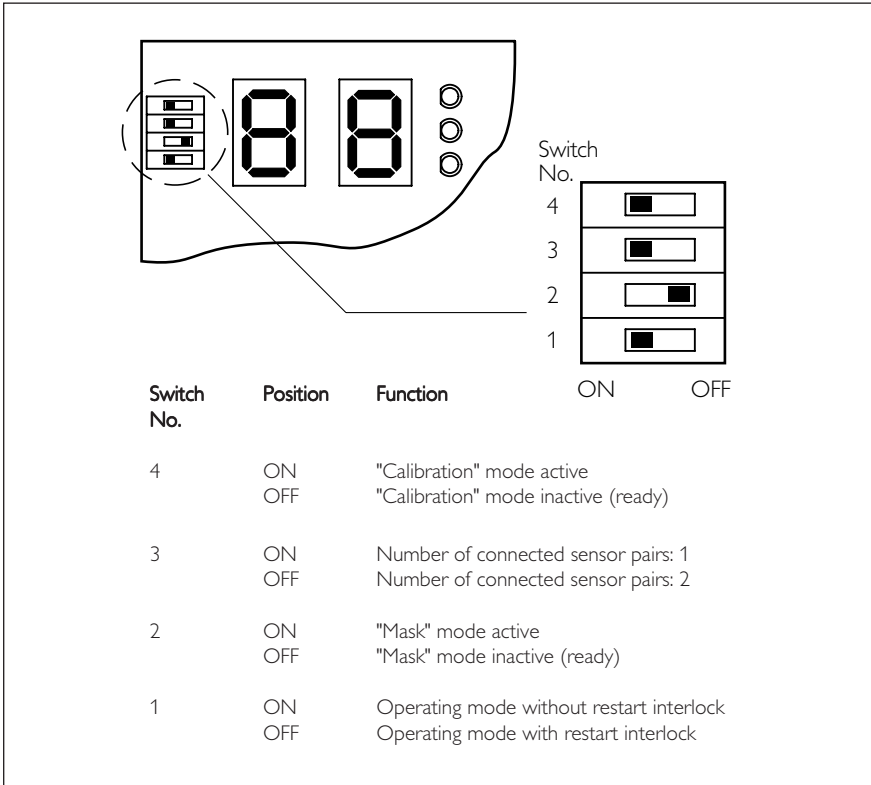

Fig. 15. Operating mode settings on the control unit
- 3 Set the DIP switches "With ..." or "Without restart interlock" (preset at factory), fig. 15
- 5 Set the DIP switch: either 1 or 2 LGT connected to control unit (fig. 15)
Fig. 15 shows the funktion of the switches for setting the operating mode of the LGTN
- 2 Select "Calibration" mode: set DIP switches (Fig. 15) set to control unit print.
- 3 Select "blanking" mode: DIP switches (Fig. 15)